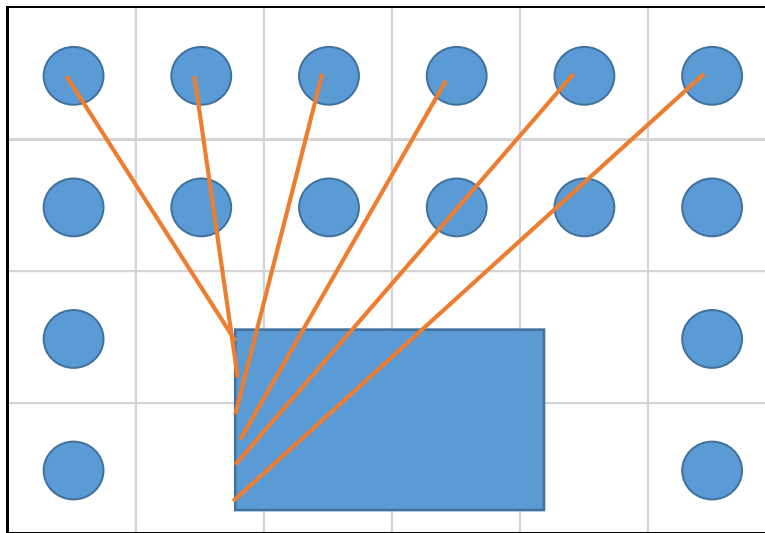

Figure 2
- Remove cookie dough pieces from the oven band to allow for placement of the data logger. (see Figure 2).
- Stretch the six thermocouple wires to a row of cookies that is farthest from the data logger, concentrating the probes in the known cool zone of the band (see Figure 2).